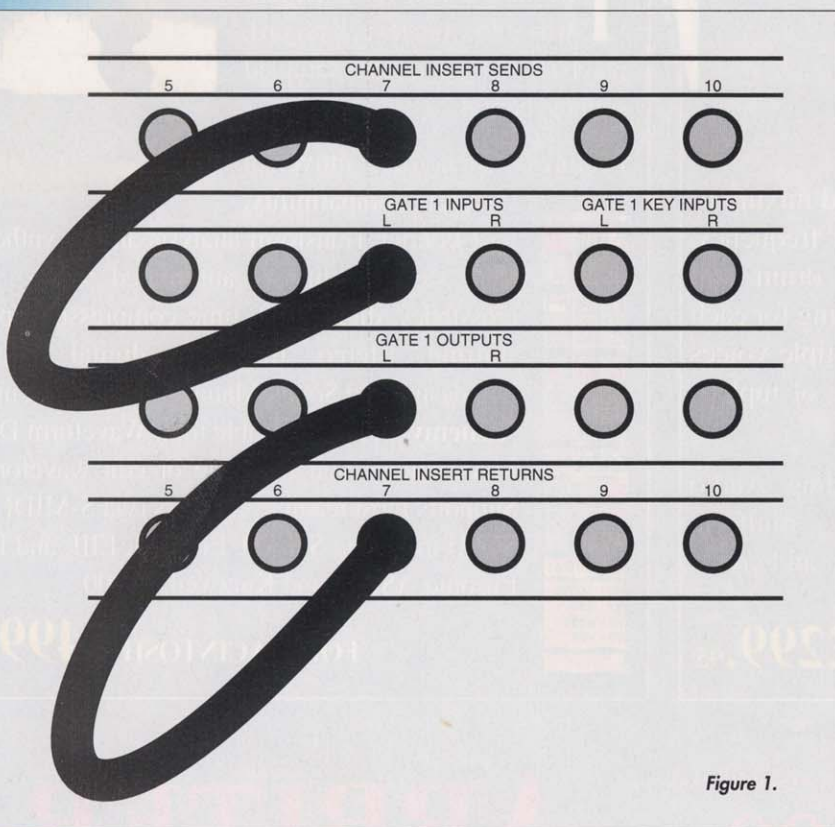

Figure 1.
The noise gate is normally employed on a single unmixed signal (which may be stereo) rather than on a complete mix, although this can be done if you feel it's what you need to clean up starts and ends. Figure 1 shows how the gate is connected to the insert points of the mixer channel you want to gate; as with equalisers and compressors, gates are not used via the aux send and return loop. If you're working without a full patchbay, you might have to make up a special adaptor (Y) lead if your console has the usual single stereo jack send/return insert point.
- Patch the guitar track through the noise gate, as shown in Figure 1.